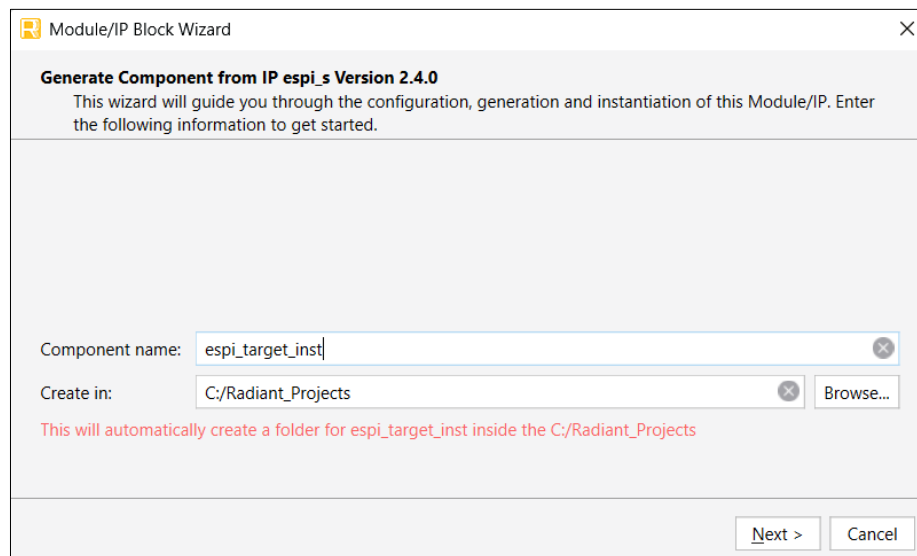
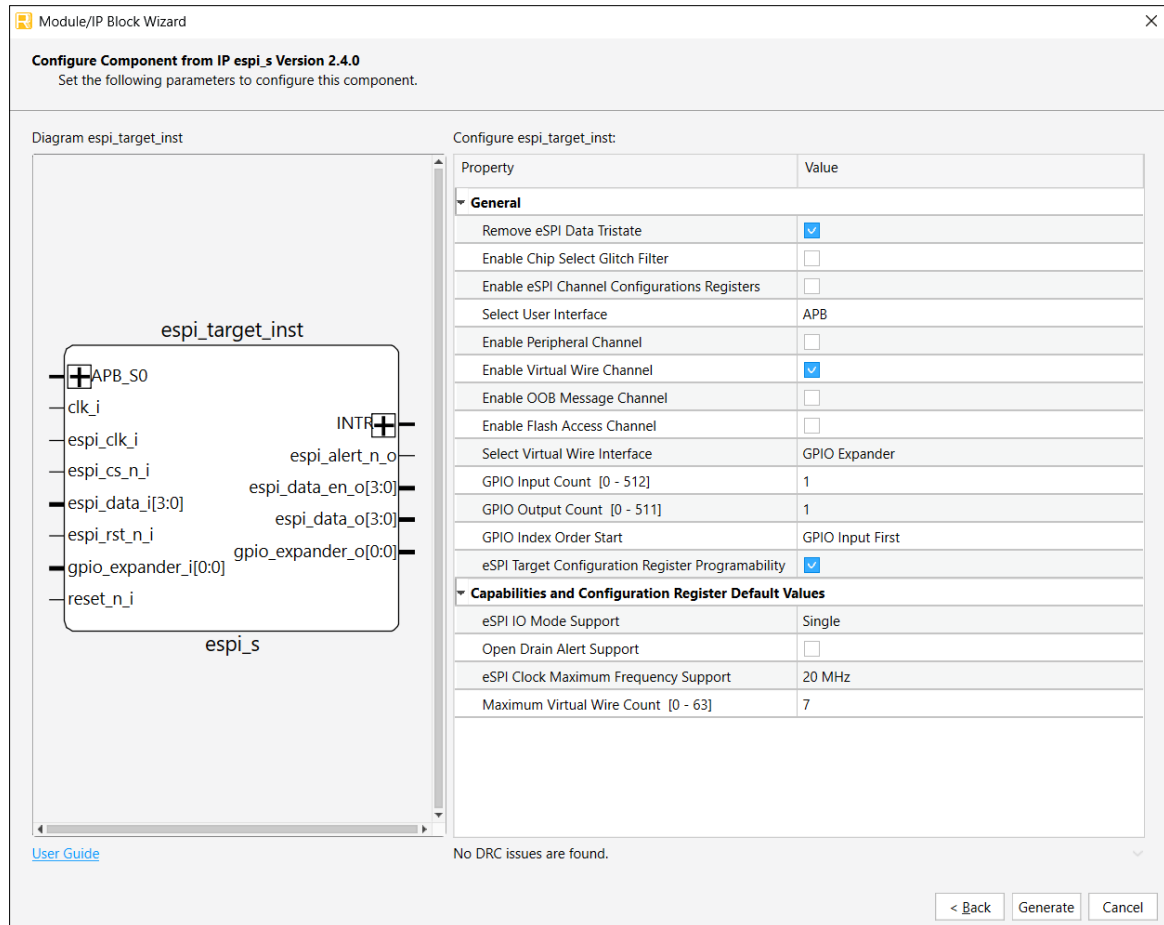
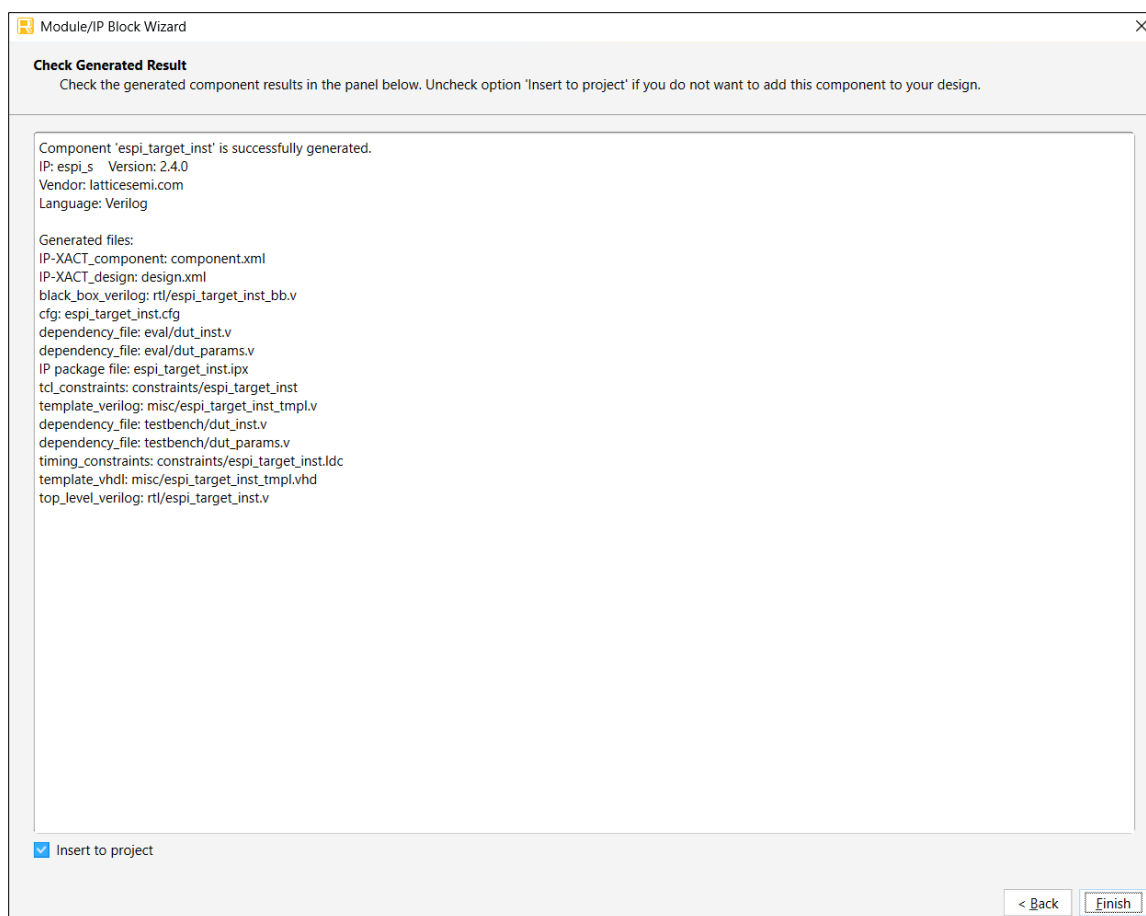

Figure 7.1. Module/IP Block Wizard
Figure 7.2. IP Configuration
Figure 7.3. Check Generated Result
2. In the **IP Catalog** tab, double-click **eSPI Target** under **IP, Processors, Controllers, and Peripherals** category. The **Module/IP Block Wizard** opens, as shown in Figure 7.1. Enter values in the **Component name** and the **Create in** fields and click **Next**.
3. In the next **Module/IP Block Wizard** window, customize the selected eSPI Target IP using drop-down lists and check boxes. Figure 7.2 shows an example configuration of the eSPI Target IP. For details on the configuration options, refer to the IP Parameter Description section.
- Click **Generate**. The **Check Generated Result** dialog box opens, showing design block messages and results (Figure 7.3).
- Click **Finish**. All the generated files are placed under the directory paths in the **Create in** and the **Component name** fields shown in Figure 7.1.
Designing with the IP	Updated Figure 7.1. Module/IP Block Wizard , Figure 7.2. IP Configuration , and Figure 7.3. Check Generated Result .